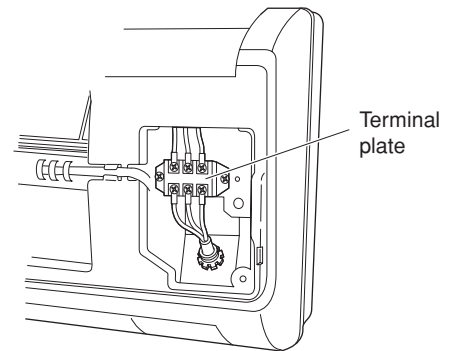

Fig. 26a
- (4) Route the inter-unit wiring from the back of the indoor unit and pull it toward the front for connection. (Figs. 26a and 26b)
- (5) Connect the inter-unit wiring to the corresponding terminals on the terminal plate (Figs. 26a and 26b) while referring to the wiring diagram.
- (6) Be sure to secure the wiring with the provided clamp.